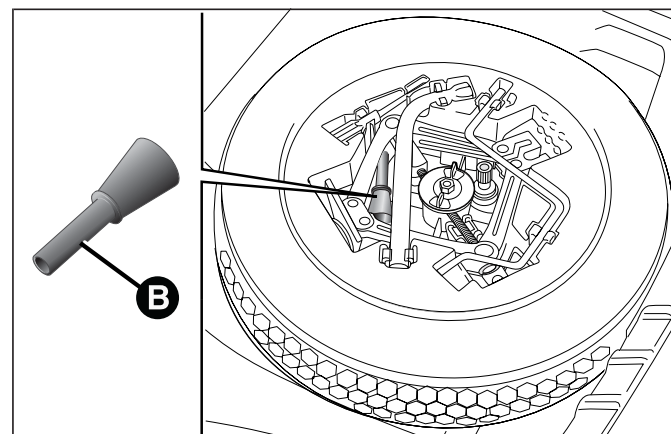
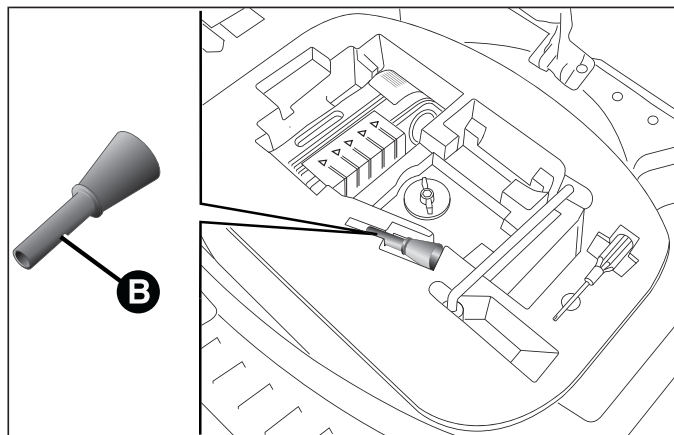

fig. 83
fig. 84
- open the luggage compartment and take adapter B located in the tool box (versions equipped with space-saver wheel - for versions/markets, where provided) fig. 83 or in the Fix&Go Automatic container (versions equipped with Fix&Go Automatic) fig. 84;